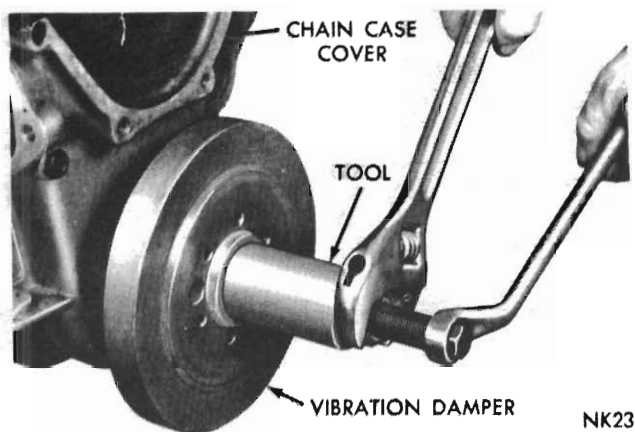

Fig. 18 - Installing vibration damper assembly (Using Tool E9C55C)
(8) If satisfactory, slide the crankshaft oil slinger over shaft and up against sprocket (flange away from sprocket).
(9) Be sure mating surfaces of chain case cover and cylinder block are clean and free from burrs. Lubricate seal.
(10) Using a new gasket carefully install chain case cover to avoid damaging oil pan gasket. Tighten chain case cover cap screws to 30 lbs. ft. first then tighten oil pan cap screws to 15 lbs. ft. (Make sure that all stud holes are sealed).
(11) Position damper hub slot on key in crankshaft, and slide hub on crankshaft.
(12) Place installing tool part of Puller set E9C55C in position and press damper hub on crankshaft (*Fig. 18*).
(13) Slide pulley over the shaft and attach with bolts and lock washers. Tighten the bolts to 15 lbs. ft.
(14) Install damper hub retainer washer and bolt.